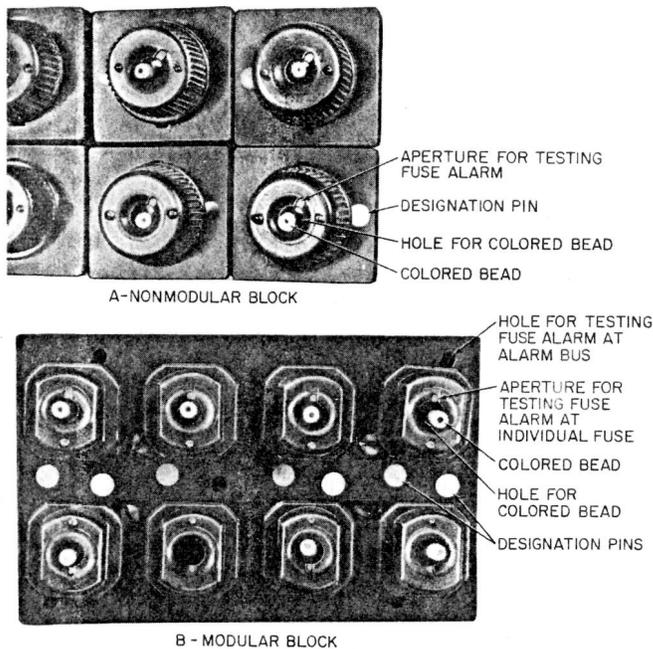

Fig. 1—Mounting for 70-Type Fuses
to the alarm test point with a 411C tool. The P-344900 fuse cap assembly is for use on nonmodular fuse blocks (18A, 19A, and 21A), and the P-11F667 fuse cap assembly is for use on modular fuse blocks (22- through 27-type). This style cap should be used when testing fuse alarms. (See Fig. 1.) **Due to the hazards involved, discontinue the former procedure of testing fuse alarms by inserting a 411C tool or a 266C tool (wire burnisher) held in a 265C tool (contact burnisher holder) beside the colored bead on older caps without the slot or aperture.**
1.07 On modular-type fuse blocks (Fig. 1), there is an aperture in each corner of each block providing access to the alarm bus bar. Tests made from these apertures will check the alarm circuit and continuity of the alarm bus bar. Tests made